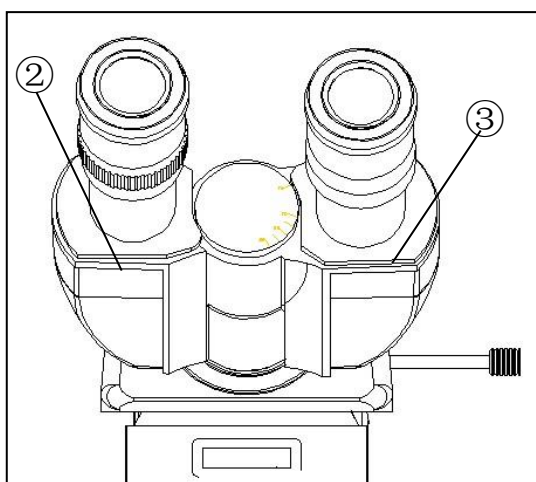

Fig.24
3.2.5 Adjusting the Interpupillar Distance (Fig.24)